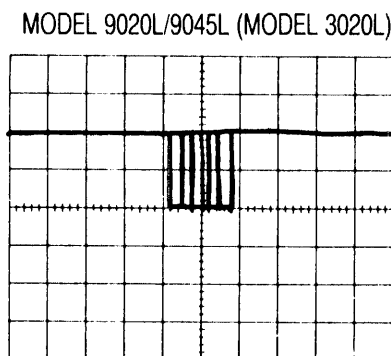

Figure 7-8 Capstan Motor Speed Variation
7.3.7 Capstan Motor Speed Variation Check (Figure 7-8)